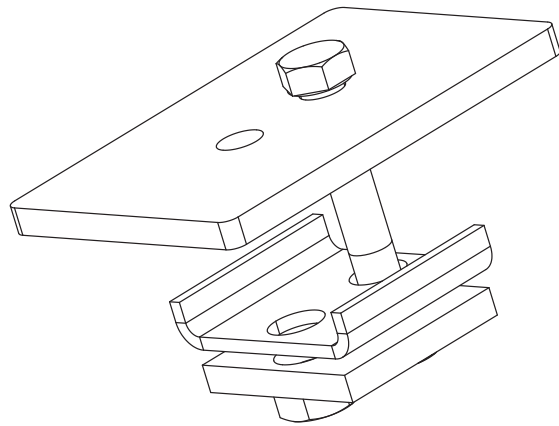

Fig. 3
3. Assemble Stake Pocket Mounts Refer to Fig. 3